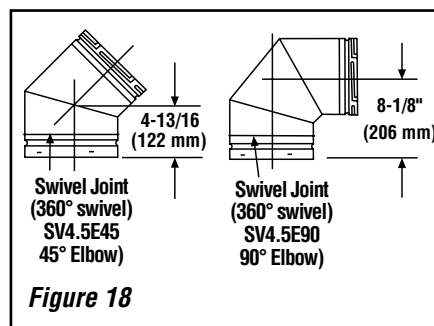

Figure 18
Analyze the vent routing and determine the quantities of vent sections and number of elbows required. Refer to **Vertical Vent Figures and Tables on Page 16** to select the type of vertical installation desired. Vent sections are available in net lengths of 4-1/2" (114 mm), 10-1/2" (267 mm), 22-1/2" (572 mm), 34-1/2" (876 mm) and 46-1/2" (1181 mm). Refer to the **Vent Section Length Chart on this page** for an aid in selecting length combinations. Elbows are available in 90° and 45° configurations. Refer to **Figure 18** for the SV4.5E45 and SV4.5E90 elbow dimensional specifications.
F. Change vent direction to horizontal/inclined run - At transition from or to a horizontal/inclined run, install the SV4.5E45 and SV4.5E90 elbows in the same manner as the straight vent sections. The elbows feature a twist section to allow them to be routed about the center axis of their initial collar section to align with the required direction of the next vent run element. **Twist elbow sections in a clockwise direction only so as to avoid the possibility of unlocking any of the previously connected vent sections.** See *Figure 18*.
Analyze the vent routing and determine the types and quantities of sections required 4-1/2" (114 mm), 10-1/2" (267 mm), 22-1/2" (572 mm), 34-1/2" (876 mm) and 46-1/2" (1181 mm) net section lengths are available. Plan the vent lengths so that a joint does not occur at the intersection of ceiling or roof joists. Make allowances for elbows as indicated in **Figure 18 on Page 14**.